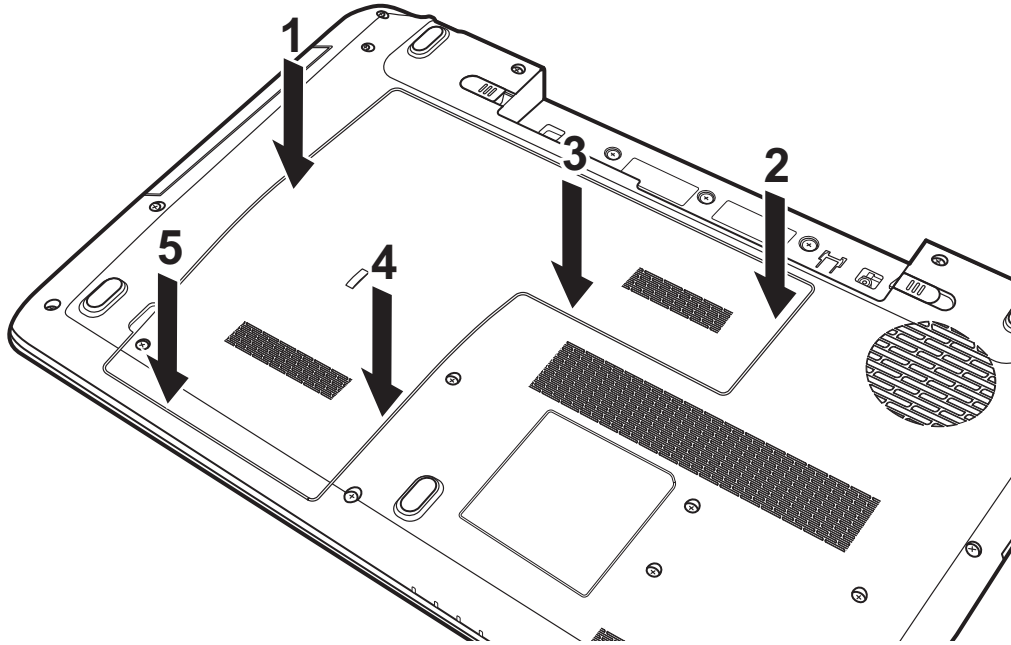

Figure 4.6 Installing the logic lower door
4. Replace the logic lower door. Press down the logic lower door according to the sequence indicated in Figure 4.6.